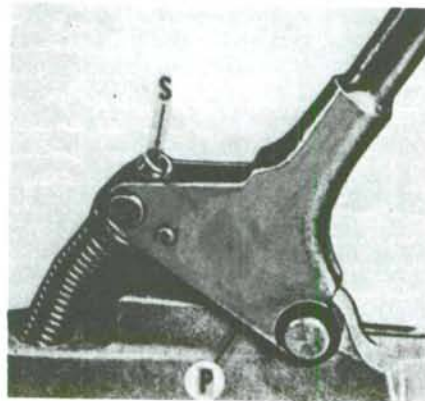

Fig. H19—Turn screw (S) to adjust chain brake on early models. Refer to text.
The chain brake on early models is activated when the operator's hand strikes the hand guard. To adjust chain brake on early models, pull back hand guard and be sure mechanism is cocked. Turn adjusting screw (S—Fig. H19) in until chain cannot be pulled around bar then turn screw out three or four turns. If screw has a square head, be sure screw head does not rest on side plates (P).